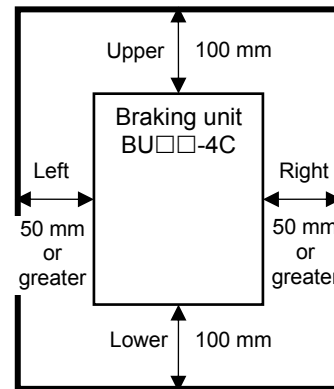

Figure 6.5.4-1: Restrictions on braking unit installation
- (1) Install vertically. Do not install upside down or horizontally.
- (2) Keep a space as illustrated in **Figure 6.5.4-1**. Additionally, since the heat radiates toward the upper portion, do not install units vulnerable to the heat at the upper portion of the braking unit.
- (3) Cooling fins are installed on the rear of the braking unit. When the braking unit operates continuously, the fin temperature may increase to approx. 90°C. So, appropriate materials that can endure the temperature increase should be used for the rear.
- (4) When using multiple braking units, arrange them horizontally to minimize the mutual heat interference. However, when installing the braking units vertically due to restrictions on space inside the cabinet, partition plates or the like should be mounted to prevent the effects of the heat at the lower portion on the upper portion. (Refer to "12.5.2 Principles in designing layout in cabinets" in Chapter 12.)